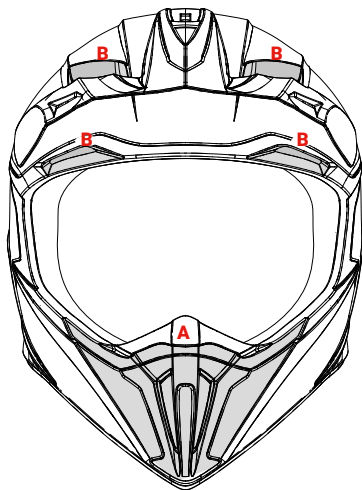

FIGURE 3
■ PRISE D'AIR FRONTALE MENTONNIERE – A – Figure 3
■ PRISE D'AIR FRONTALE SUPERIEURE – B – Figure 3